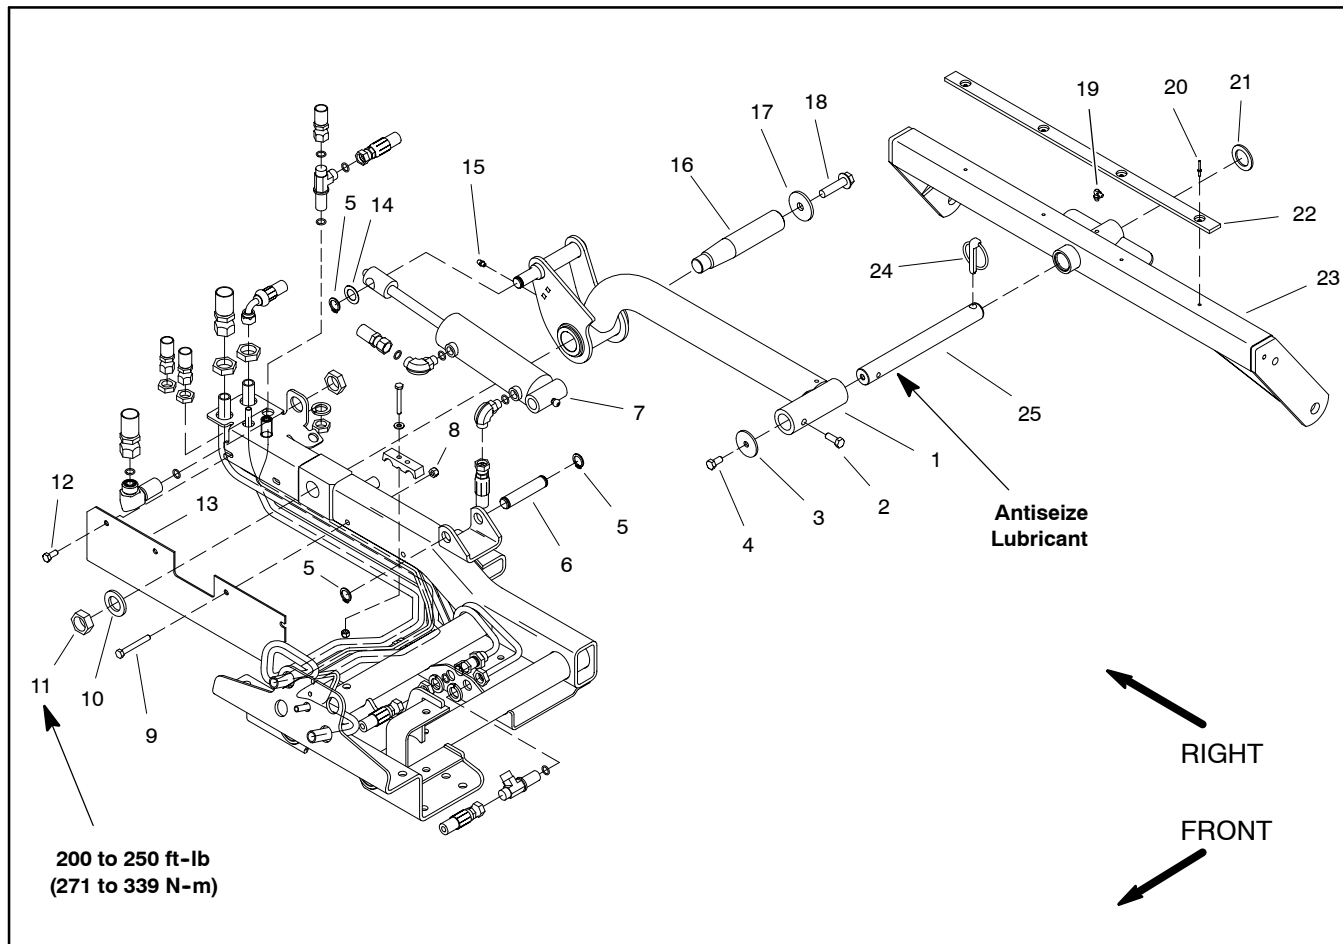

Figure 14
Removal (Fig. 14)
6. Disassemble lift arm as necessary using Figure 14 as a guide.
Installation (Fig. 14)
1. Assemble lift arm using Figure 14 as a guide.
- A. If the rear lift arm pivot shaft (item 16) was removed from frame, thoroughly clean tapered surfaces of shaft and frame. Position pivot shaft to frame and secure with washer and jam nut. Torque jam nut from 200 to 250 ft-lb (271 to 339 N-m).
- B. If the carrier frame pivot shaft (item 25) was removed from lift arm, apply antiseize lubricant to pivot shaft before inserting into lift arm. Secure pivot shaft with two (2) cap screws (items 2 and 4) and washer (item 3).